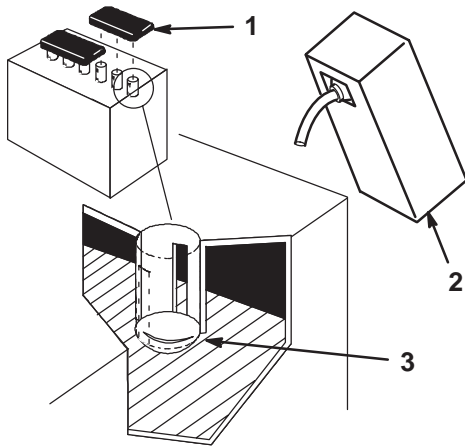

Figure 4
2. Remove the filler caps from the battery. Slowly pour electrolyte into each cell until the electrolyte level is up to the lower part of the tube (Fig. 4). Use an electrolyte with a specific gravity of 1.265.
5. Slowly pour electrolyte into each cell until the level is once again up to “UPPER” line on the battery case (Fig. 4), then install the filler caps.